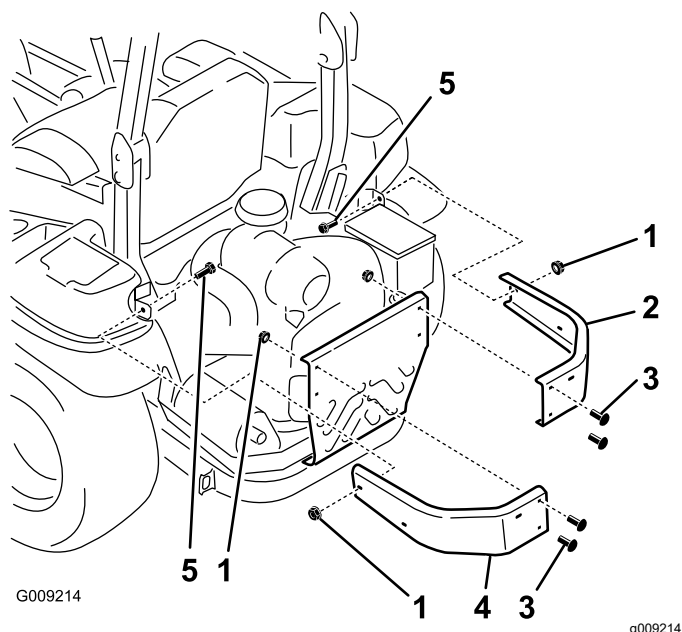

Figure 5
1. Remove the nuts and bolts holding the side bumpers to the machine (Figure 5).
2. Install the new left and right side bumpers with 2 carriage bolts (3/8 x 1-1/4 inches), 4 previously removed carriage bolts, and 6 flange nuts (3/8 inch) as shown in Figure 5.